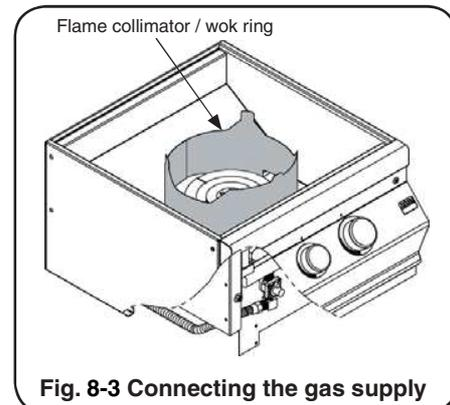

Fig. 8-3 Connecting the gas supply
3. Bring the flex connector along the left side of the power burner to the front of the unit and the regulator inlet flare fitting. Use the connector support bracket to hold the flex connector up away from the drip tray and keep front vent clear (Fig. 8-3).